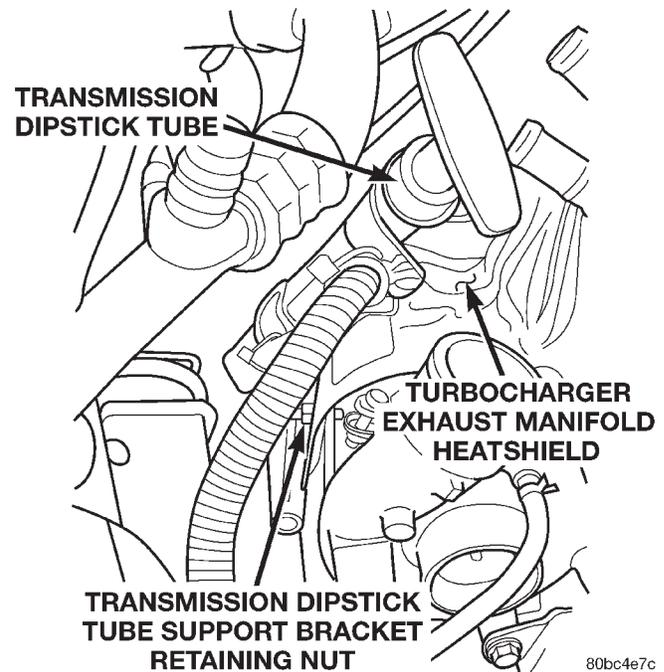

Fig. 14 Transmission Dipstick Tube Support Bracket Position & Orientation
(3) Remove the transmission dipstick tube support bracket nut from the turbocharger heatshield (Fig. 14).
(4) Position a drainpan under the transmission.
(5) Pull the transmission dipstick tube from the transmission housing.
(6) Raise the vehicle on a hoist.
(7) Remove the (2) lower fan shroud retaining bolts.